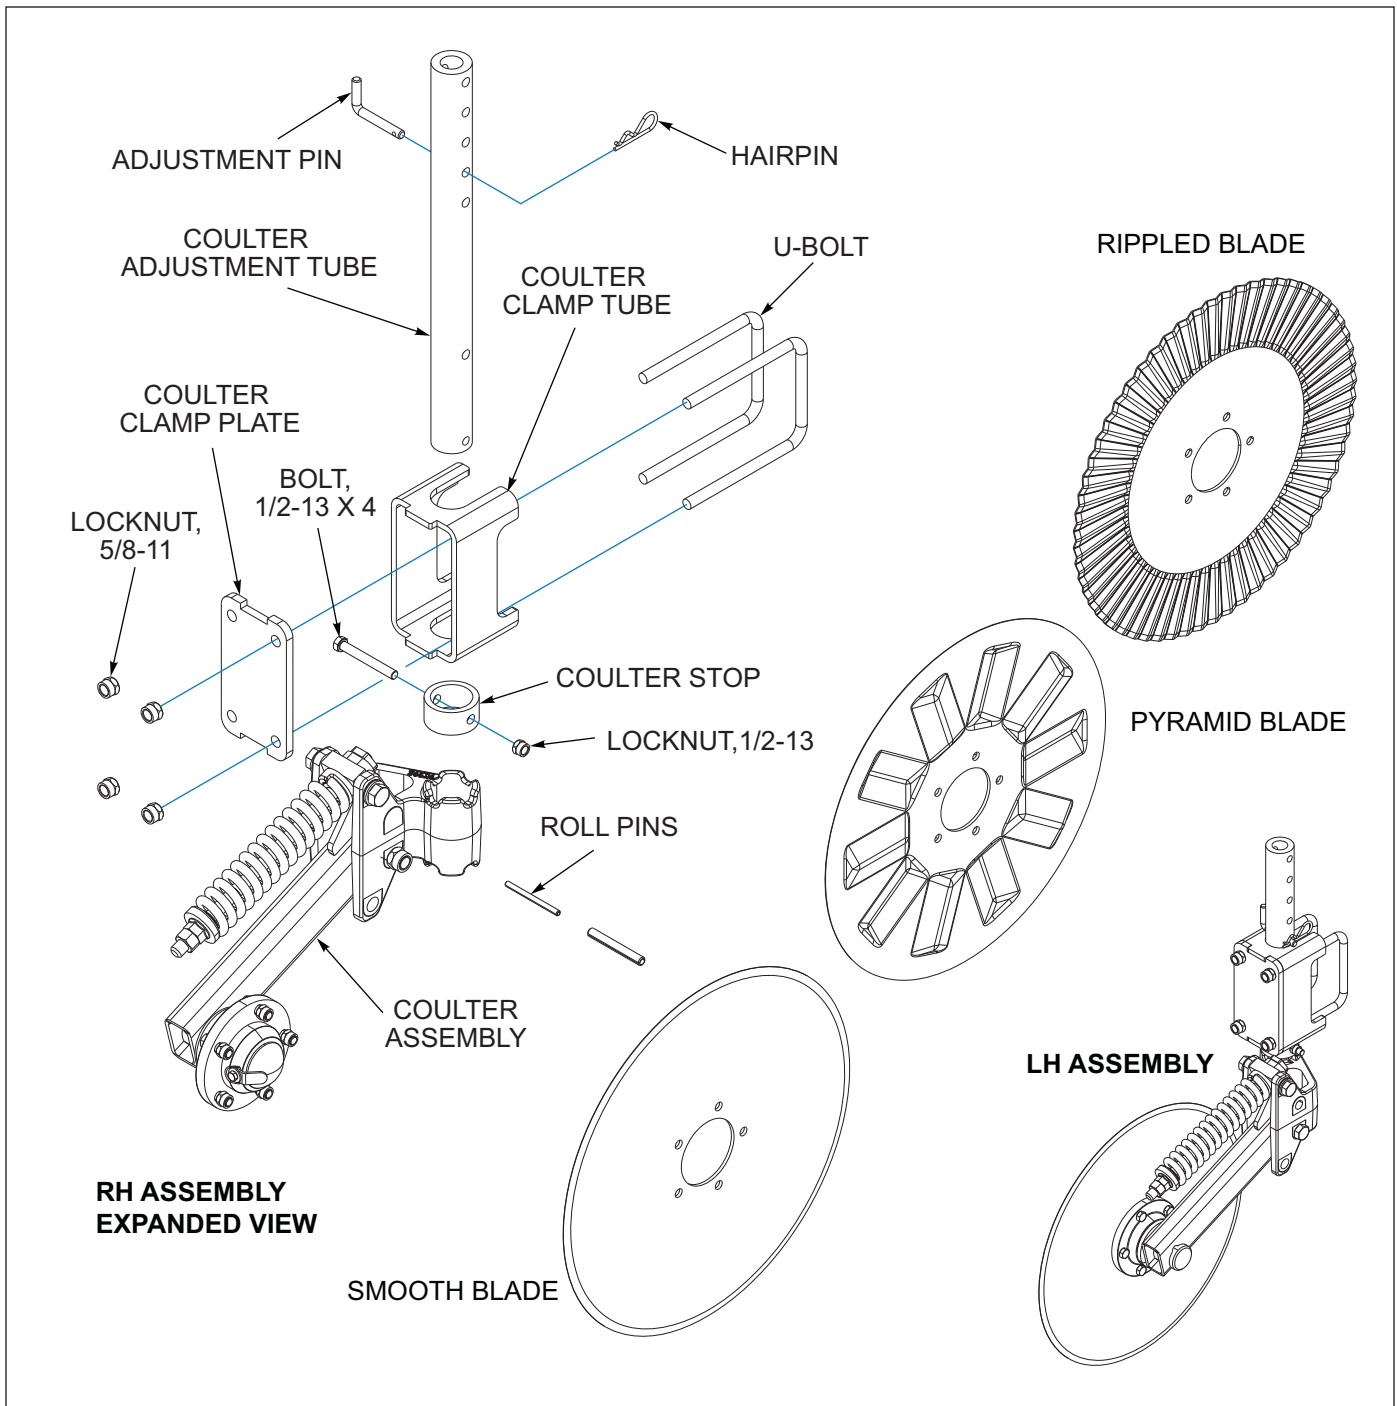

Figure 3-4: Coupler Assembly
1. Assemble Coupler Adjustment Tube to Coupler Assembly using Roll Pins $1/2 \times 4$ and $5/16 \times 4$. Assemble the Coupler Stop to the Coupler Adjustment Tube using $1/2 \times 4$ Bolt and Locknut. See **Figure 3-4**.